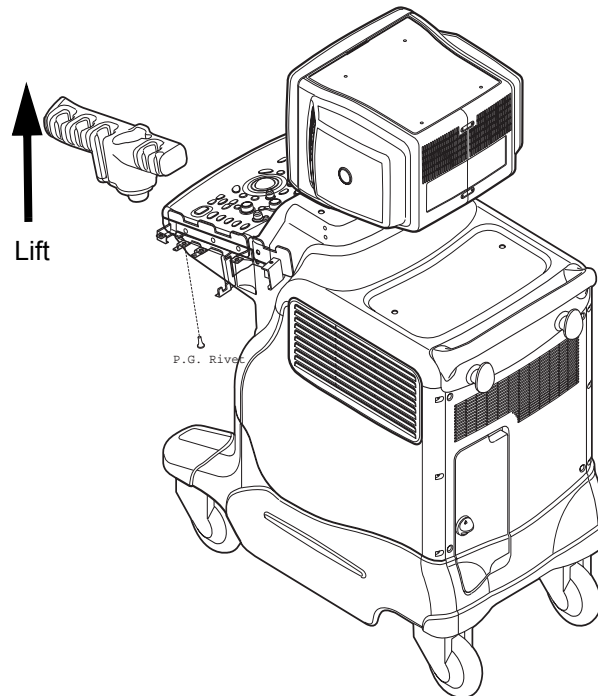

Figure 8-53 PROBE HOLDER DISASSEMBLY
- 2.) Lift the Probe Holder from the Bracket. Refer to Figure 8-53 on page 8-16 .